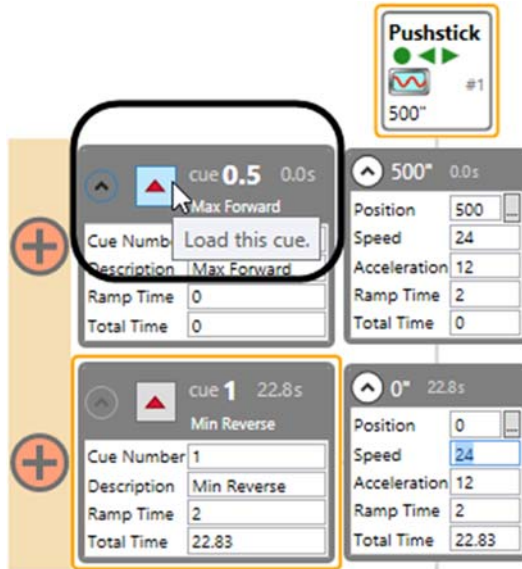

Figure 94
1. To load **Cue 1**, press the **Load Cue** button on the cue in the **Cue Grid** (Figure 94).